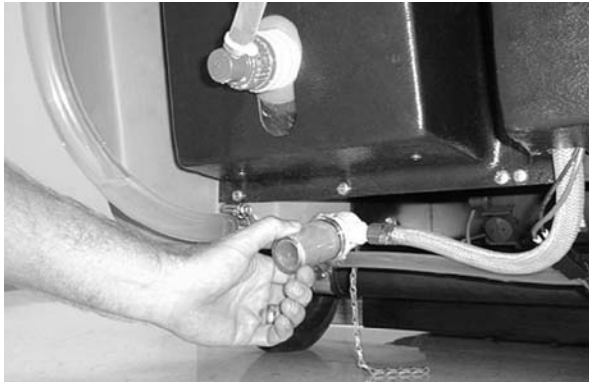

FIG. 33
4. Remove inline strainer filter and clean. Make sure solution is empty before removing filter (Figure 33).